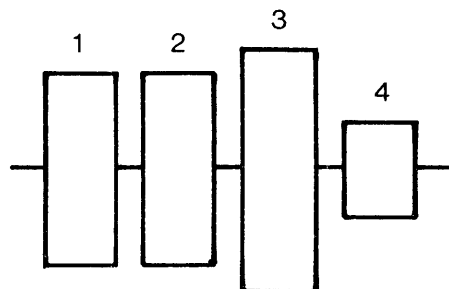

Figure 4-10. Head Azimuth Acceptable Lower Limit
- Figure 4-10 depicts an azimuth of exactly minus 9, 12, or 18 minutes, depending upon the manufacturer of the diskette. This is the lower limit of allowable error. Bursts 1 and 2 are of equal amplitude. If this signal is observed, the Cats Eye alignment should be checked.